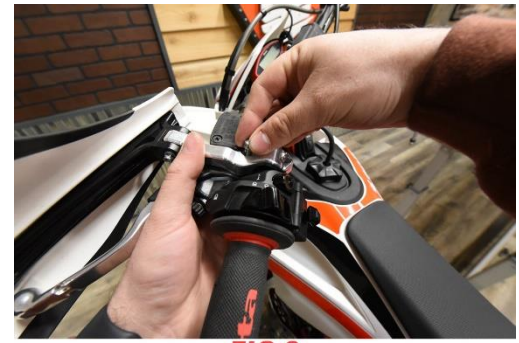
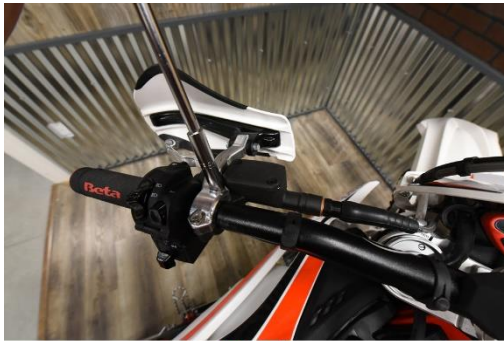

FIG 3
FIG 4
3. Line up the Aluminum Moto Roost Deflector mount with the Clutch or Brake Master cylinder. Reusing the bolts you removed in step 2, start both bolts by hand (FIG 3) before tightening to factory spec with an 8mm T-Handle or Socket. (FIG 4) (Make sure you adjust your lever to your preferred position)